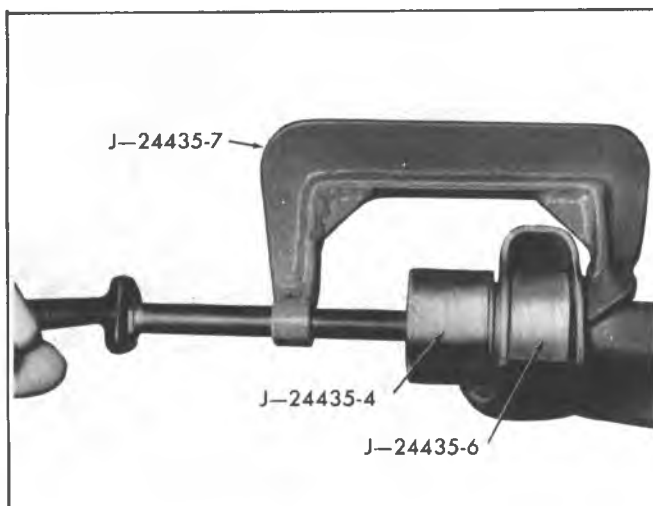

Fig. 3C-26--L.C.A. Rubber Bushing Installation
#### Bushing Installation (Fig. 3C-26)
1. Install new bushings as shown in Figure 3C-26 using spacer J-24435-6, installer J-24435-4 and "C" clamp J-24435-7.
**NOTICE:** Be sure spacer J-24435-6 is in position as shown in Figure 3C-26 to avoid collapsing control arm during assembly.